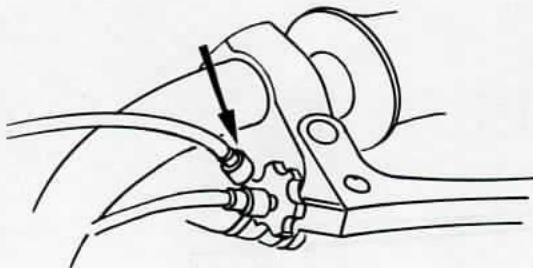

Fig. 4
- Adjust the tension at the choke lever adjuster (a small amount of free movement is required and should not exceed $\frac{1}{4}$ " , fig. 4).